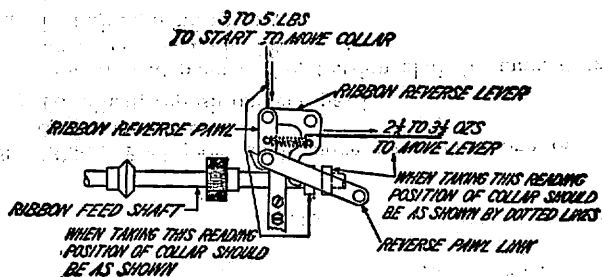

Fig. 26
4.43 **Ribbon feed shaft tension springs** shall exert a pressure of min. 3 lbs., max. 5 lbs. measured on the ribbon reverse pawls as in Fig. 26 when the feed shaft is held in
- 4.50 Ribbon reverse pawl spring tension shall be min.  $2-1/2$  ozs., max.  $3-1/2$  ozs. measured as in Fig. 26 with ribbon feed shaft collar moved away from ribbon reverse lever as shown dotted.